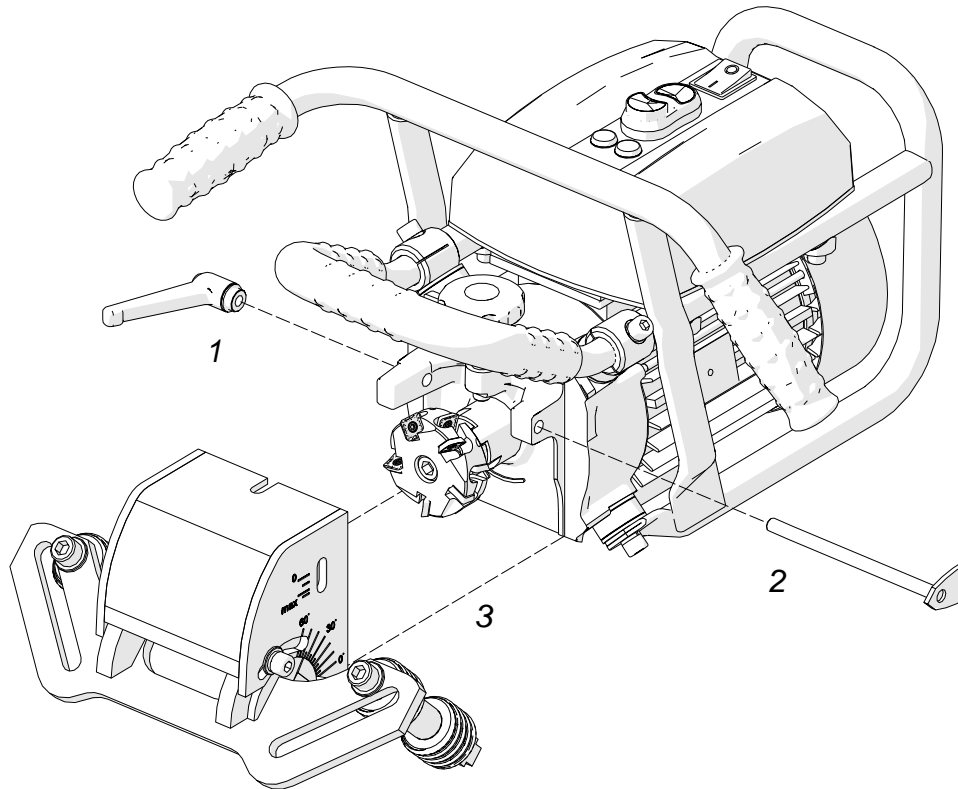
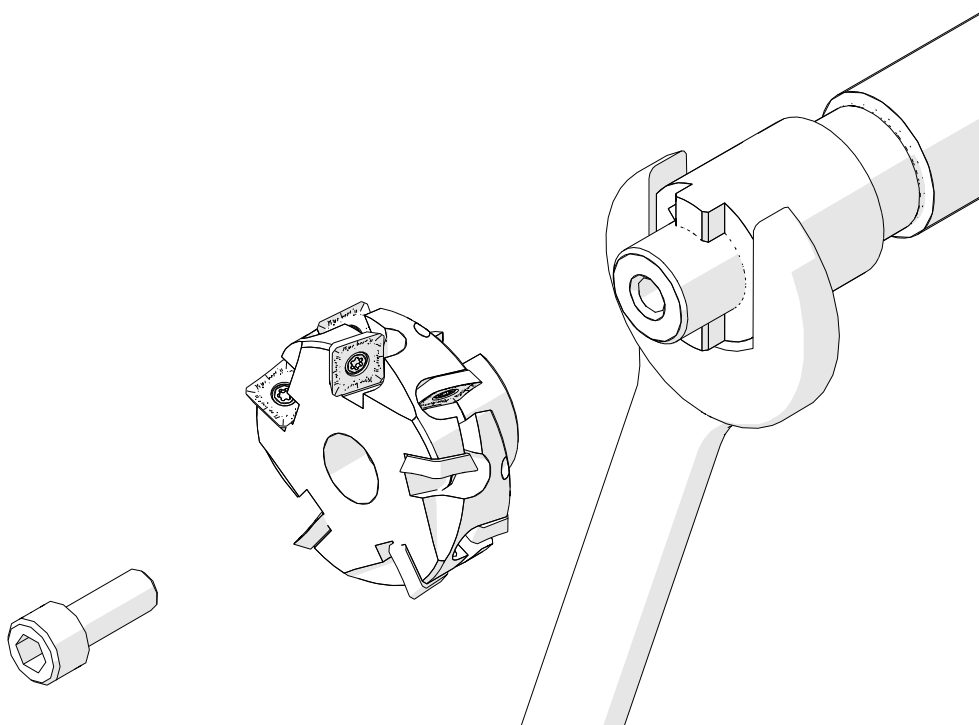

Fig. 12. Removing the milling head cover
Fig. 15. Replacing the milling head
Unplug the machine from the power source. Remove the lever (1, Fig. 12), the indicator (2), and the milling head cover (3).
Remove the milling head cover as shown in Fig. 12. Use the 32 mm flat wrench to prevent the turn of the spindle (Fig. 15). Then, use the 8 mm hex wrench to remove the screw, and remove the milling head. The 32 mm flat wrench is not included in standard equipment.